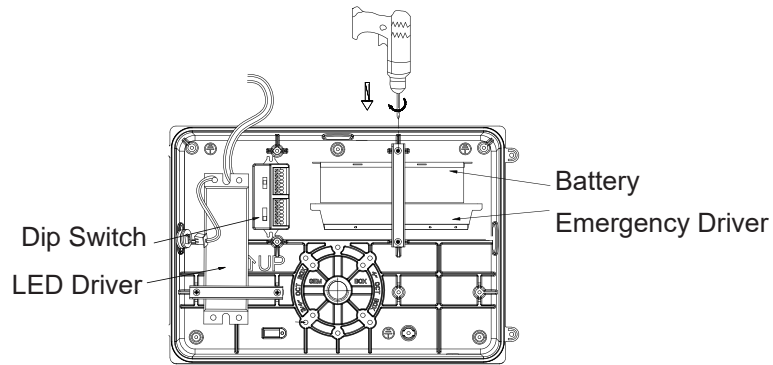

Fig3
- > Determine appropriate location for EMB in the fixture or using existing mounting holes in the fixture. The installation instruction of LED luminaire may provide guidance on mounting location. (Fig 3)
2. Fix battery and emergency driver with 2 screws and metal bar. (Fig 3)